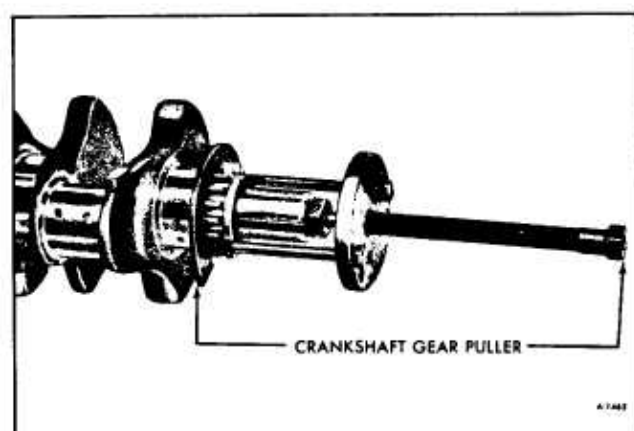

Figure 53—Crankshaft Gear Removal
**NOTE:** Gear to crankshaft fit tolerances may be such that a puller is necessary. (See figure 53).